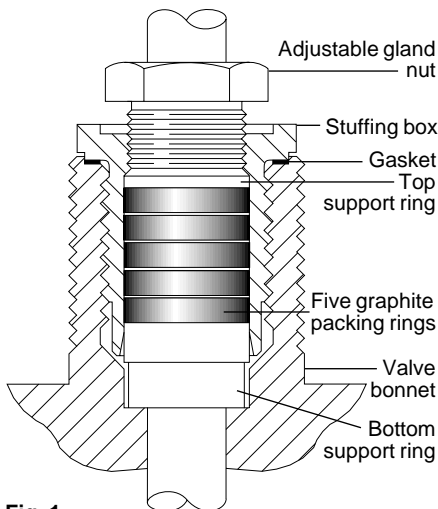

Fig. 1
- e) During fitting the order of the graphite pack should be maintained as supplied. This can be seen in Figure 1.